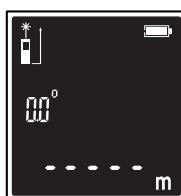

Fig. 6
## Single-mode measurement (Fig. 6)
- The measurement will be displayed immediately on the screen. (Fig. 6)